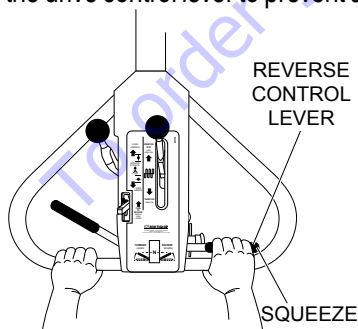

Figure 28. Reverse Travel Lever
3. Squeeze the **right** travel lever (Figure 28) to move the roller in a **reverse direction**. Use a smooth squeezing action on the drive control lever to prevent abrupt takeoffs.